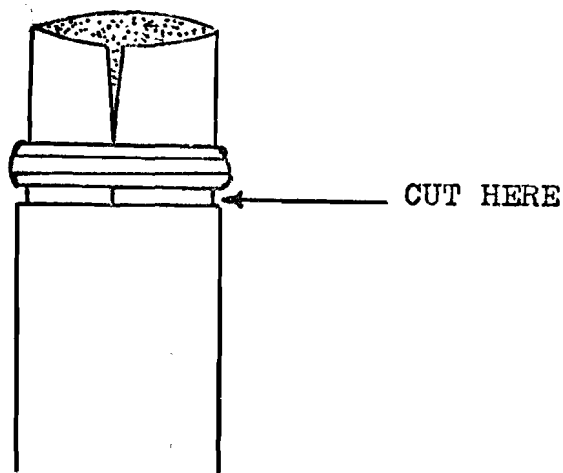

Figure 47
4. Slip the ring over the paper (Figure 47). If extremely tight, tear 1/2 inch or so off the paper.
6. Cut away the paper that is showing in the groove (Figure 47).